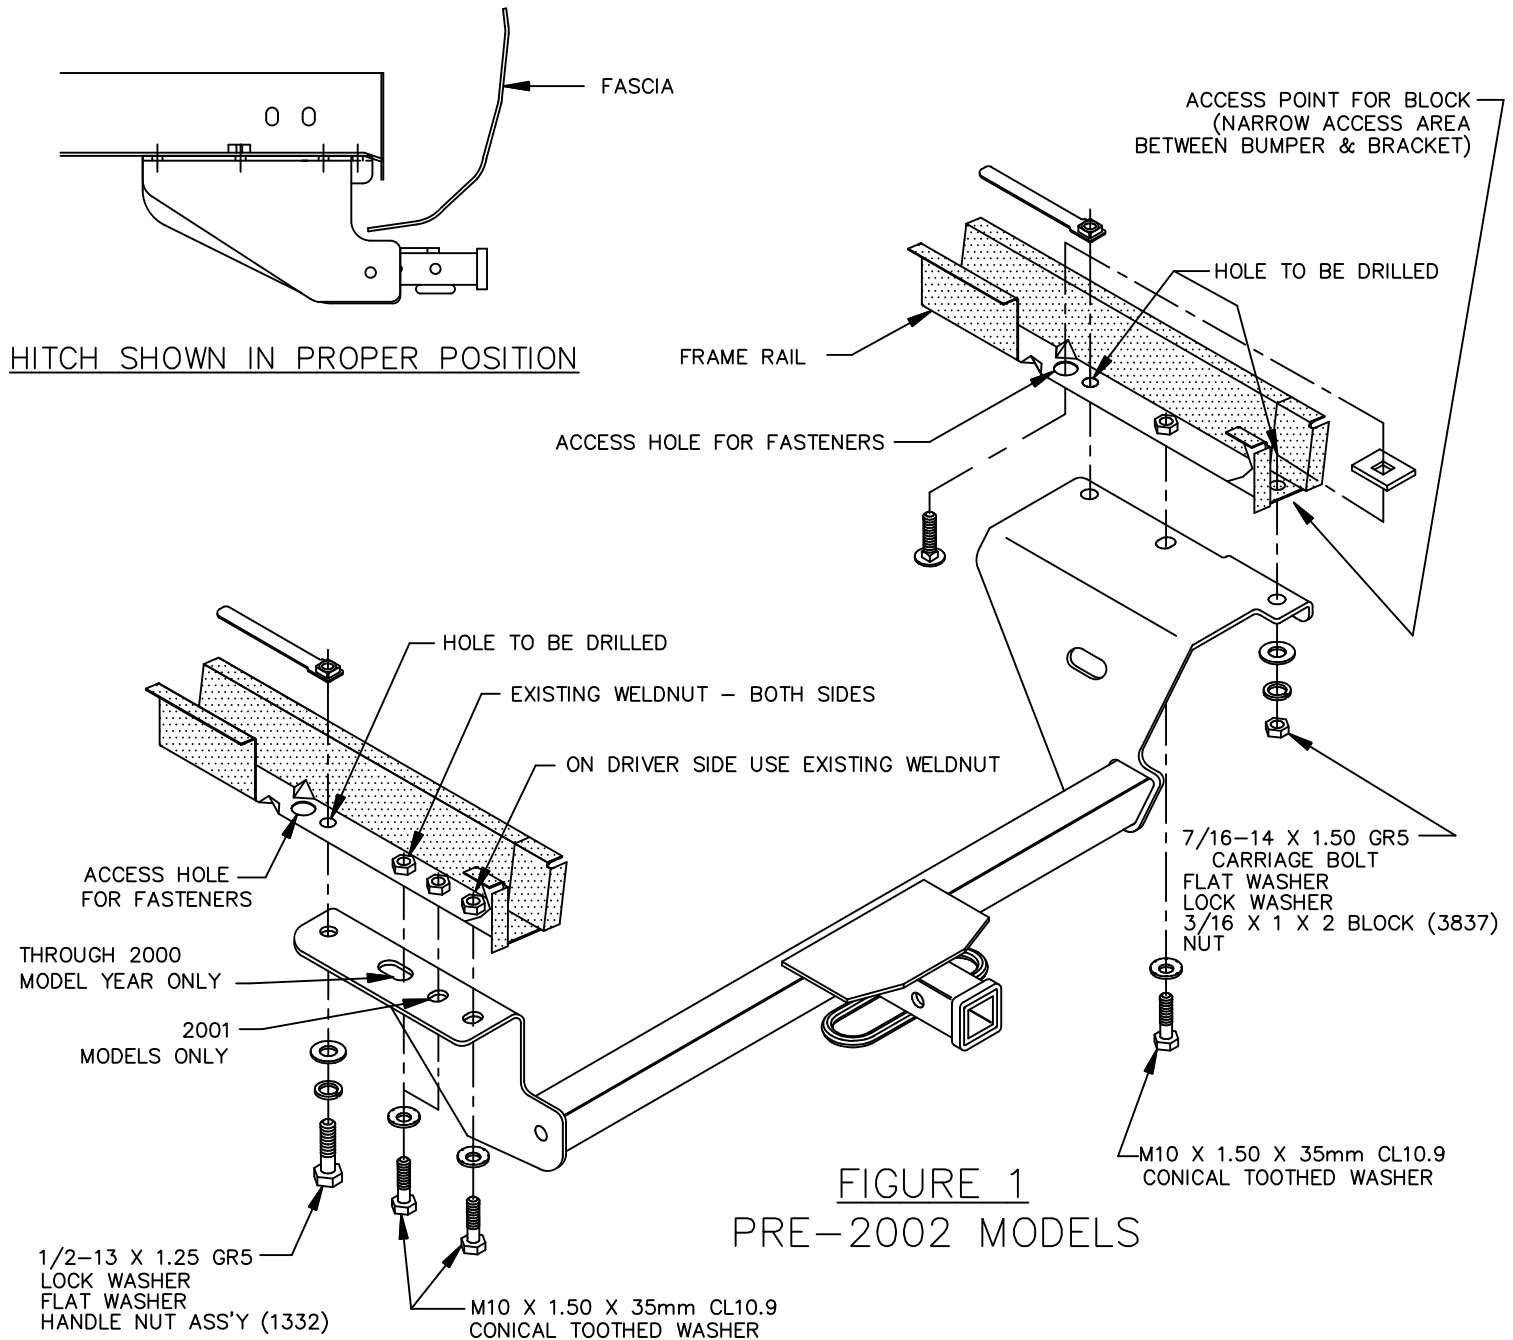

FIGURE 1
6. INSTALL 7/16 FASTENERS AS SHOWN IN FIGURES 1 OR 4.
7. USING ACCESS HOLE IN FRAME INSTALL HANDLE NUT ASS'Y AS SHOWN IN FIGURES 1 OR 4. INSTALL REMAINING 1/2" FASTENERS AS SHOWN IN FIGURES 1 OR 4.